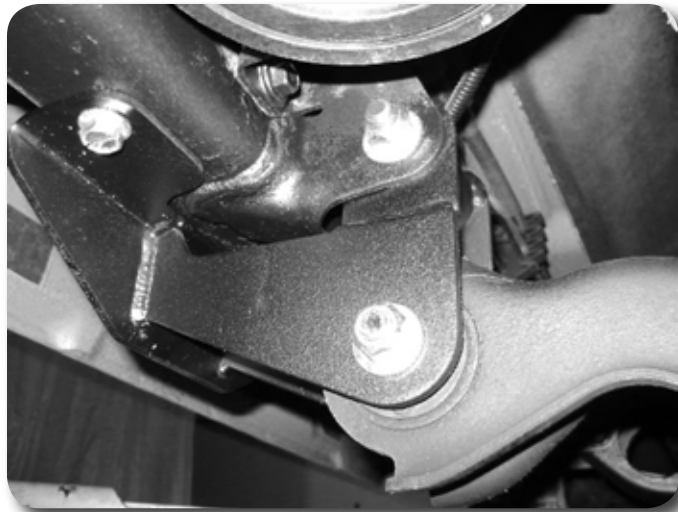

Figure 34
64. With the torsion bar crossmember in place, use the new brackets to locate the two holes (per side) to be drilled on the bottom of the frame rails. Drill 5/16" holes at each of the 4 locations. Fasten the bracket with the provided 3/8" x 1-1/4" self-tapping bolts. **Figure 34** Torque to 20 ft-lbs.